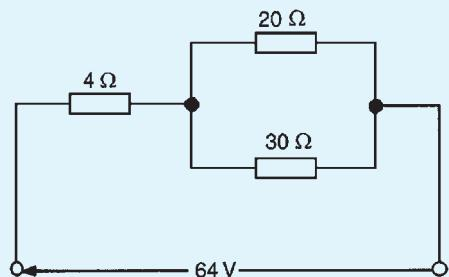

Figure 5.31
7. (a) Calculate the current flowing in the $30\ \Omega$ resistor shown in Fig. 5.31 (b) What additional value of resistance would have to be placed in parallel with the $20\ \Omega$ and $30\ \Omega$ resistors to change the supply current to 8 A, the supply voltage remaining constant.